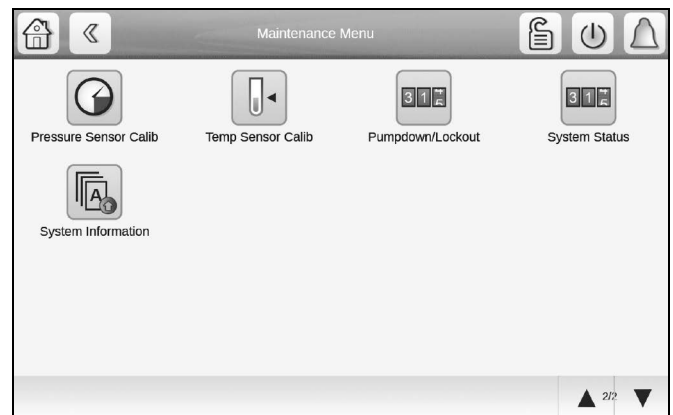

Fig. 42 — Pressure Sensor Calib Screen, Page 1
1. Go to *Main Menu → Maintenance Menu → Pressure Sensor Calib*. See Fig. 42 and 43.
- Go to **Main Menu → Maintenance Menu → Temp Sensor Calib**. See Fig. 42.